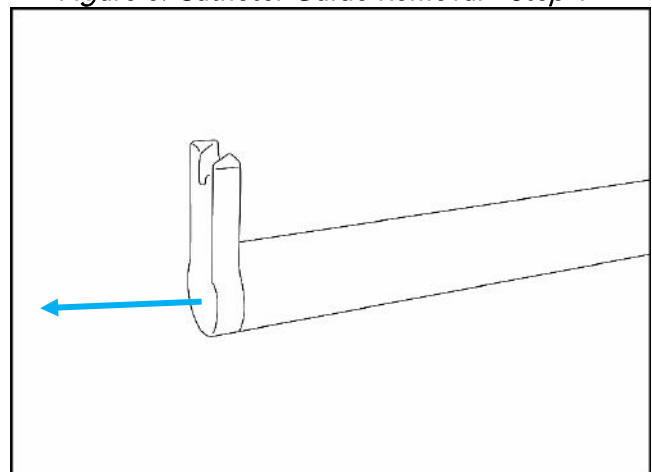

*Figure 8: Catheter Guide Removal - Step 1*
1. Grasp the rounded section of the catheter guide with your thumb and forefinger as shown in Figure 8.